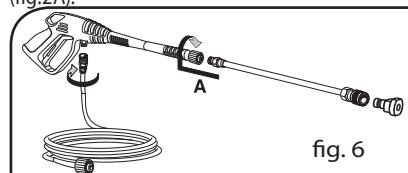

fig. 6
- Connect the high pressure hose to the spray gun. Insert the spray wand of your choice into the wand extension. Press in against the spring tension and twist into the locked position (fig. 6). Insert the nozzle (fig.2A).